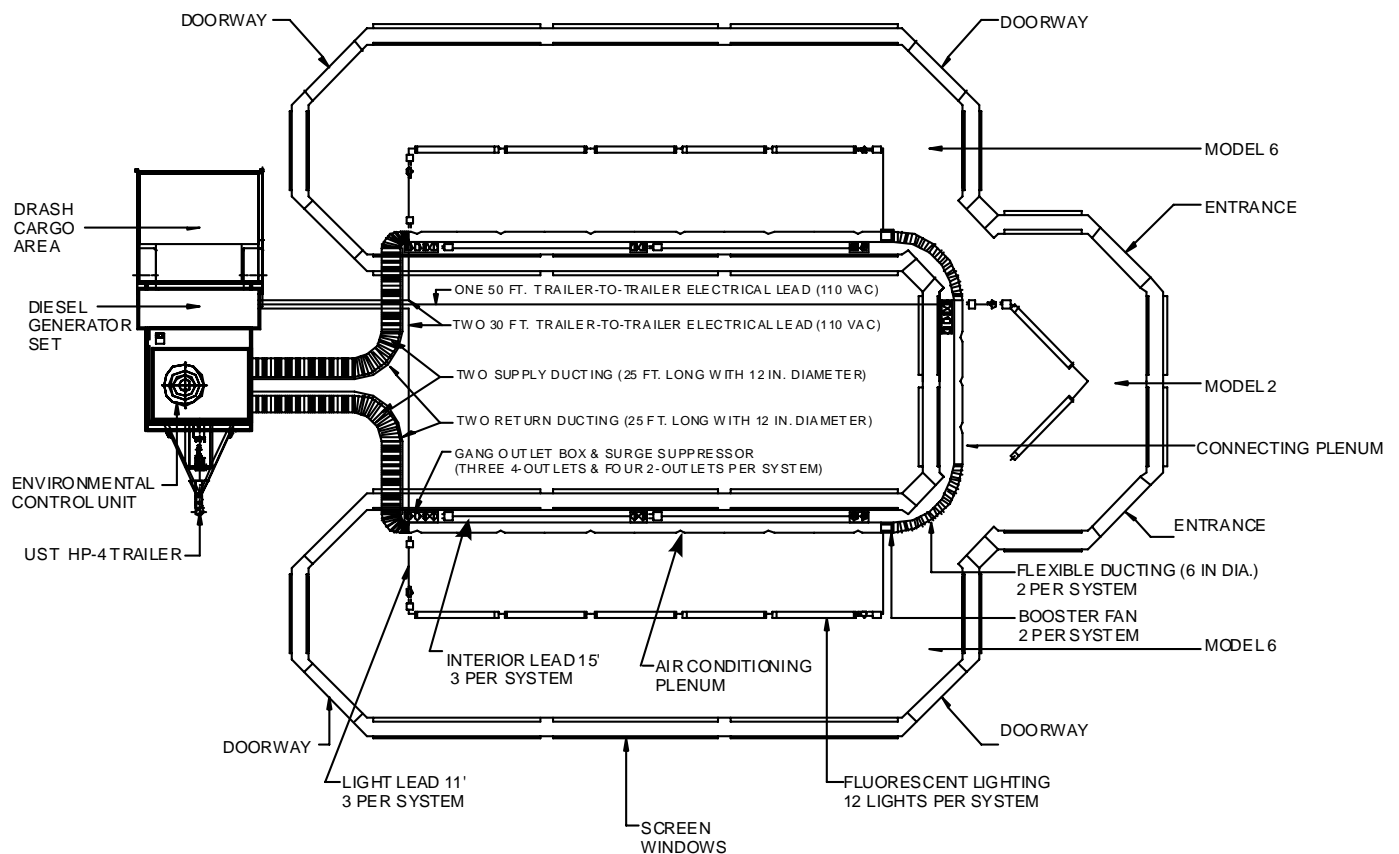

Figure 2-14 - Electrical & Environmental Layout for DRASH Complex
2. Unpack both the 50 foot (1) and 30 foot (2) trailer leads.
5. Extend the 50 foot lead to reach the electrical port of the shelter at the base of the "U" configuration. (Refer to Figure 2-14)